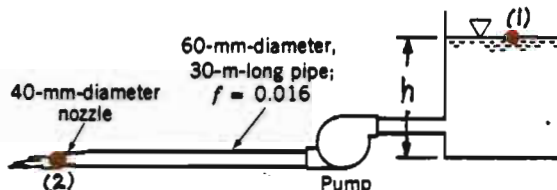

FIGURE P8.114
8.114 The pump shown in Fig. P8.114 adds 25 kW to the water and causes a flowrate of 0.04 m3/s. Determine the flowrate expected if the pump is removed from the system. Assume  $f = 0.016$  for either case and neglect minor losses.